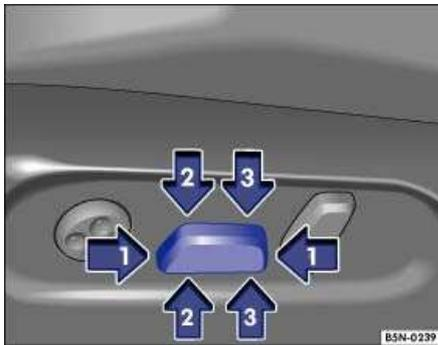
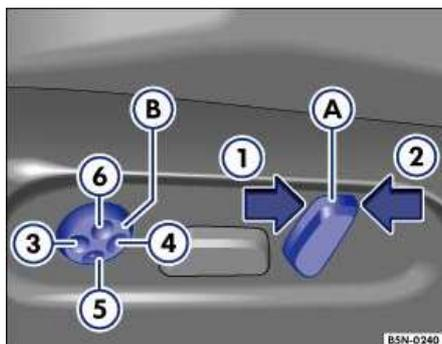

Fig. 55 Use the front switch to adjust the seat backward and forward (1), and to adjust seat cushion height and tilt ((2) and (3)).
Fig. 56 Switch (A) adjusts the backrest; switch (B) adjusts lumbar support.
– Use the switches (⇒ Fig. 55 and ⇒ Fig. 56) to adjust the front seat to preferences and seating requirements ⇒ .
- (1) Adjusts the height and forward/backward position of the seat cushion
- (2) Adjusts the backrest angle
- (3) Adjusts lumbar support²⁶. The curvature of the cushioned area of the seat backrest is controlled by the lumbar support adjustment. This helps to support the natural curvature of the spine.
- Press the switch in the direction shown ((1) ⇒ Fig. 55) to adjust the front seat forward or backward ⇒ ⚠.
- Press the switch in the directions shown ((2) or (3) ⇒ Fig. 55) to adjust the height of the seat cushion at the front or rear (tilt), or to adjust overall height.
- Press switch (A) (⇒ Fig. 56) in the direction shown (1) to recline the backrest.
- Press the switch in the direction of arrow (2) to adjust the backrest to a more upright position.
- Press on position (3) on switch (B) (⇒ Fig. 56) to increase the curvature of the lumbar cushion area on the seat.
- Press on position (4) on the switch to decrease the curvature of the lumbar cushion area on the seat.
- Press position (5) on the switch to move the lumbar support down.
- Press position (6) on the switch to move the lumbar support up.